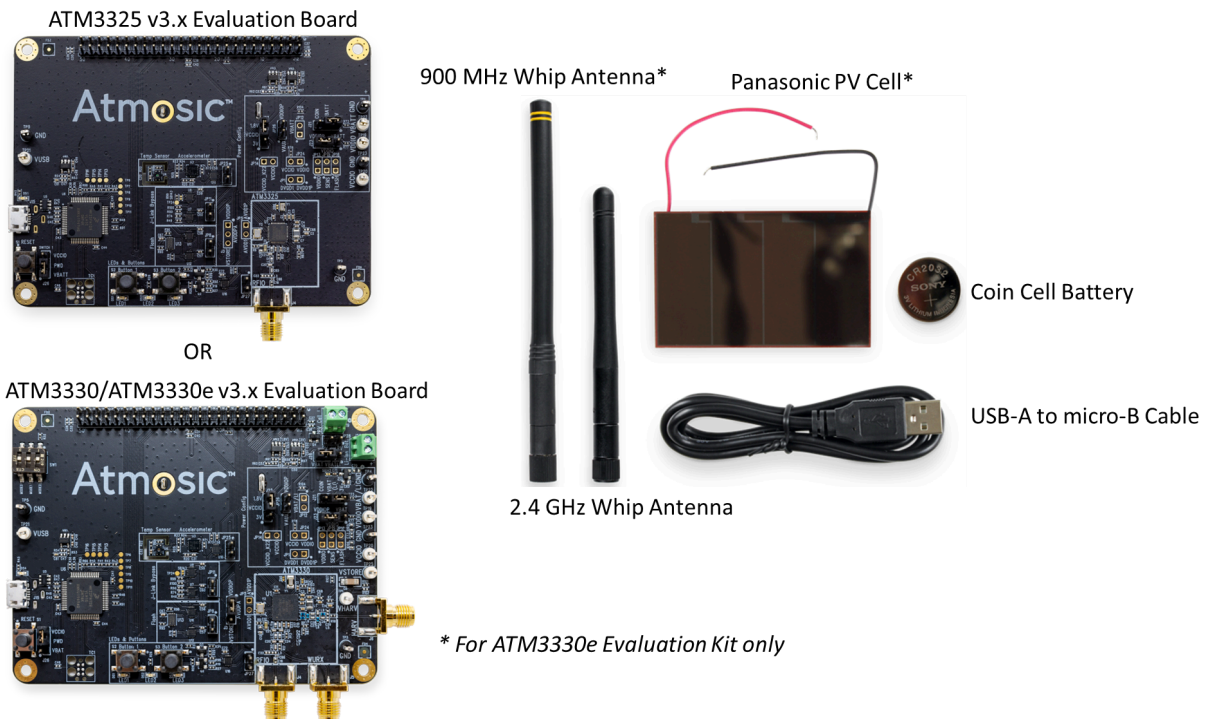

Figure 1 - ATM33/e Evaluation Kit Components
- Figure 1 - ATM33/e Evaluation Kit Components